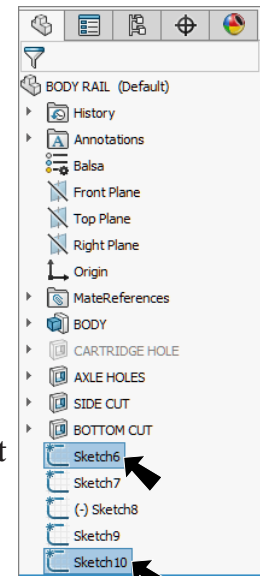

Fig. 55
Step 1. **Ctrl click both Profiles sketches, Sketch6 (arc) and Sketch10 (point)** in the Feature Manager to select both, **Fig. 55**. Select **Sketch6 (arc)** first.